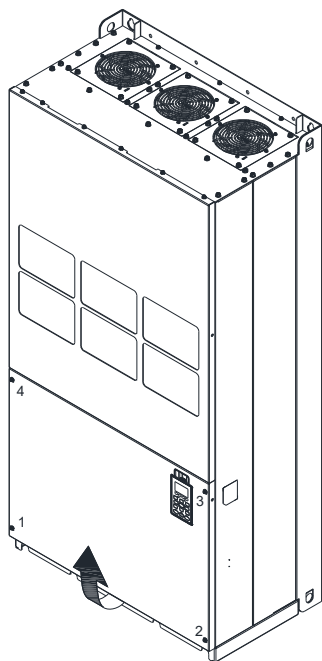

Figure 1
1. Loosen the screw 1-4 and remove the top cover (figure 1)